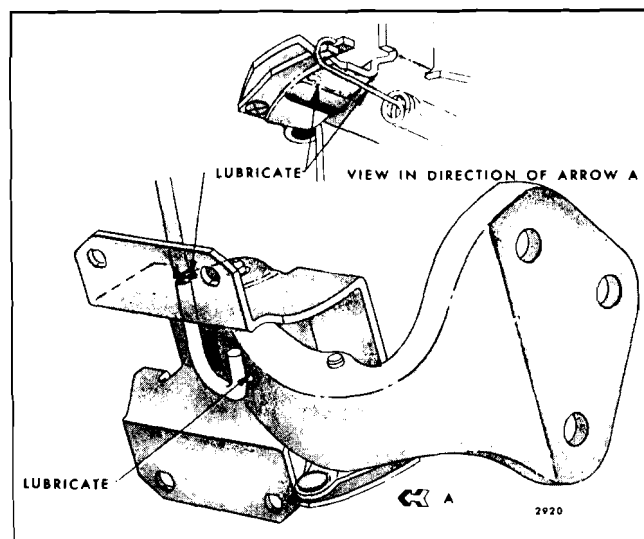

Fig. 2-4—"E" Body Front Door Hinge Lubrication
3. Lubricate the torque rod on the "E" series lower hinge assembly with molybdenum disulfide (Fiske Bros. 475-10DS or equivalent) at the points indicated (Fig. 2-4).